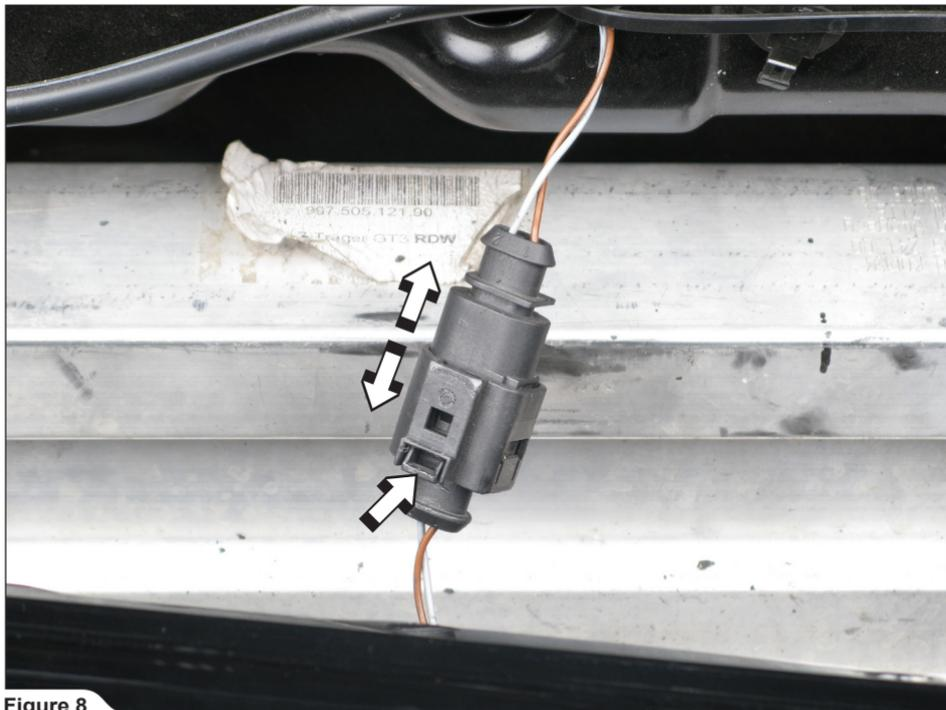

Figure 8
5. For Slip-On, Sports Cup, Evolution, Evolution-Race and SlipOn-Race: undo the number plate light connector and remove the rear bumper (Figure 8).